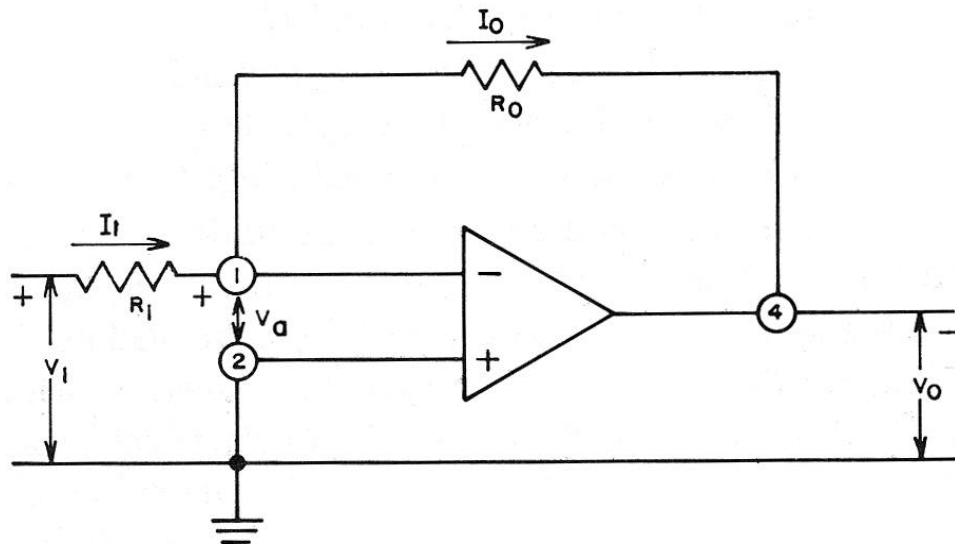

Figure 2-10. Inverting amplifier circuit showing current relationships.
In Figure 2-10, op-amp inputs (1) and (2) are summing points.* Point (2) is at ground potential and may be considered to have zero voltage.
The input voltage V_1 is applied as shown in Figure 2-10. If the op-amp has zero input current, any input current through R_1 must flow out through R_0 . The ideal op-amp has infinite impedance, so *no* current flows into the op-amp at terminal (1).